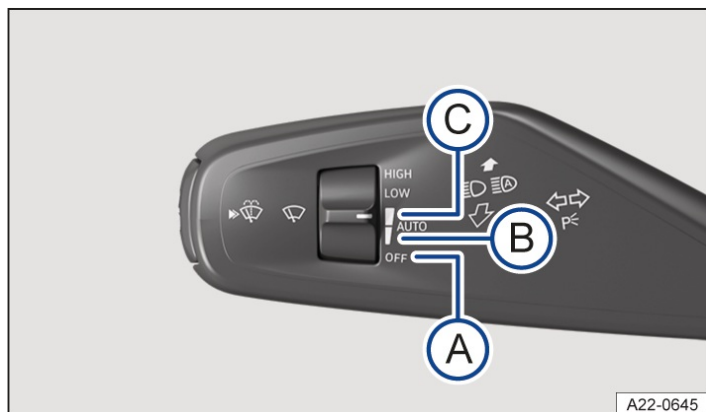

Fig. 1 On the left-hand side of the steering column: turn signal, main beam and windscreen wiper lever.
2. Turn the switch to the required position → *Fig. 1*:
- Position (B): Low sensitivity of the rain and light sensor.
- Position (C): High sensitivity of the rain and light sensor.
1. Turn the switch to position → *Fig. 1* (A).